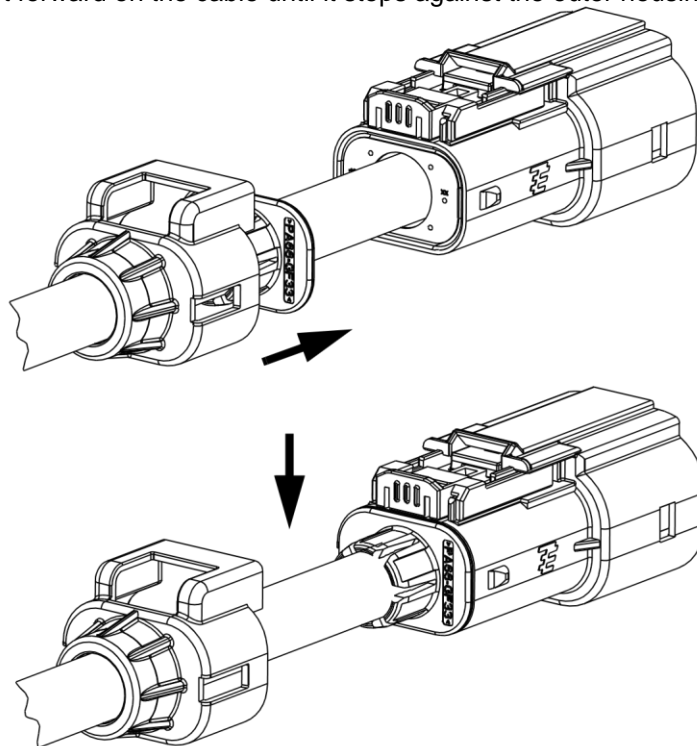

Figure 18
- 3.6.15.** Slide the collet forward on the cable until it stops against the outer housing as shown in Figure 18.